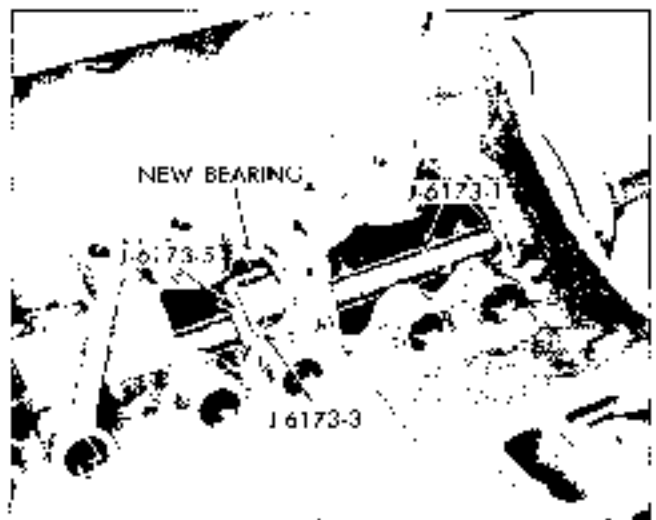

Fig. 6-99 Installing Camshaft Bearing
5. Position replacer adapter J 6173-3, with bearing in position against shoulder, against rear of hole in which bearing is to be installed (Fig. 6-99). Index mark on shoulder of replacer must point down (toward crankshaft side) to properly position bearing.
7. Slip key J 6173-6 into notches in shaft behind replacer adapter J 6173-3 and tighten nut to start bearing into hole (Fig. 6-99). Continue to tighten nut until bearing has been pulled completely into its hole. When properly positioned, it will be approximately flush with both sides of the transverse member.